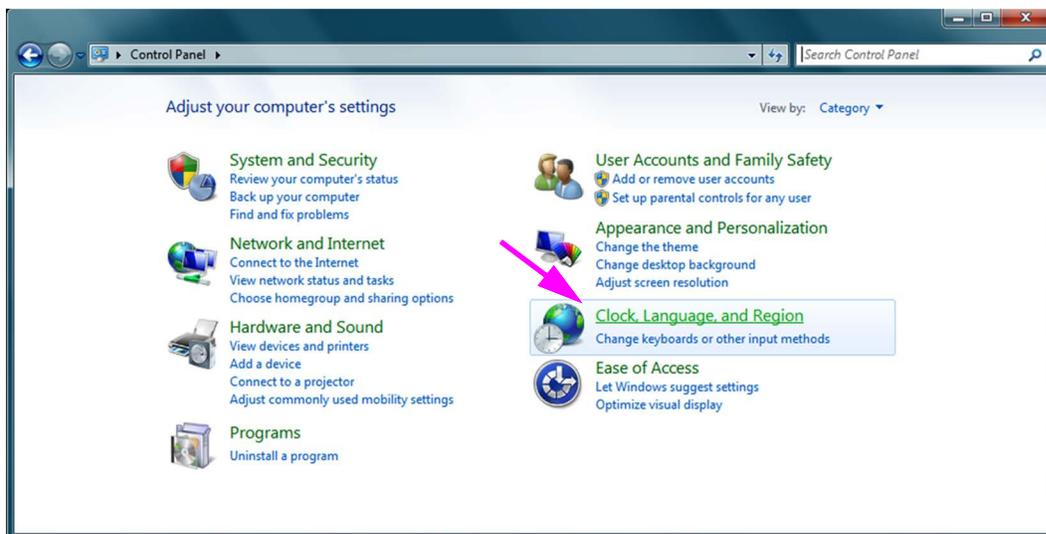

Figure C-13. Control Panel Window
3. Open the Control Panel, and then click **Clock, Language, and Region** (see Figure C-13).